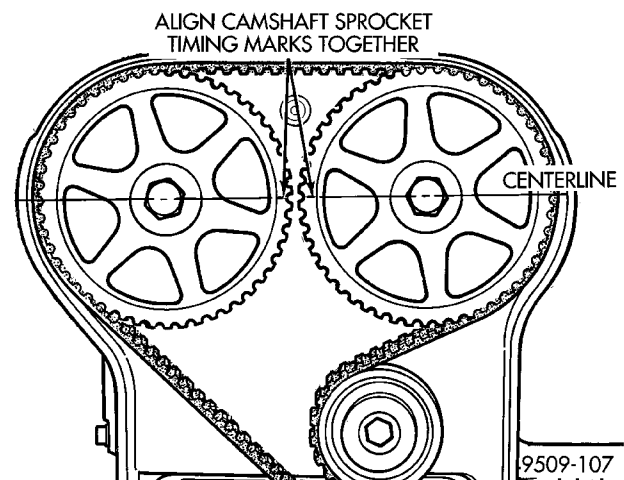

Fig. 47 Camshaft Timing Marks
(5) Set camshafts timing marks together by aligning notches on sprockets (Fig. 47).